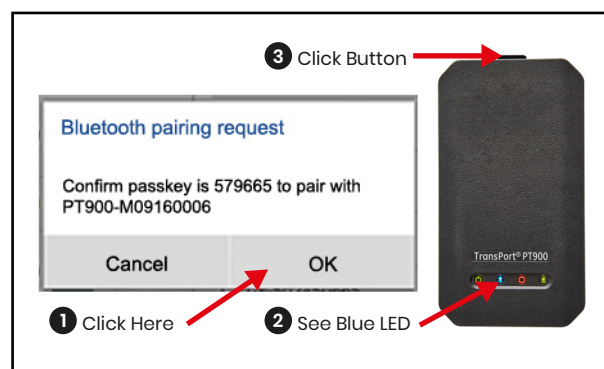

Figure 66: Confirm the Pairing
9. During the pairing process, PT900 security features require the user to confirm the pairing (see Figure 66 below). When the Bluetooth pairing request appears on the tablet (ignore the random passkey), click OK to continue. Then, confirm that the blue LED on the transmitter is flashing and click the transmitter power button.